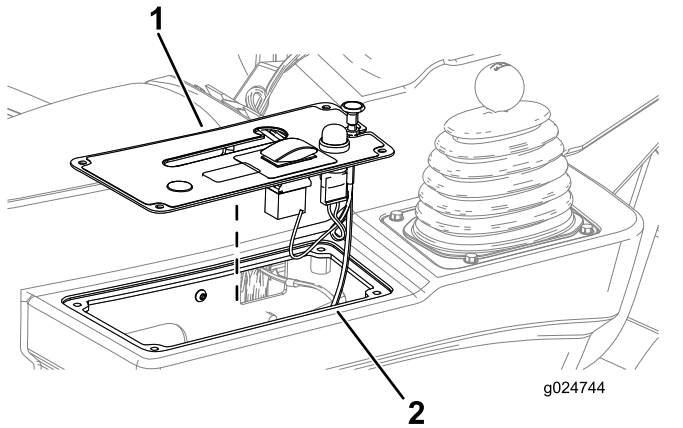

Figure 19
1. Align the control-panel cover to the side console (Figure 19).